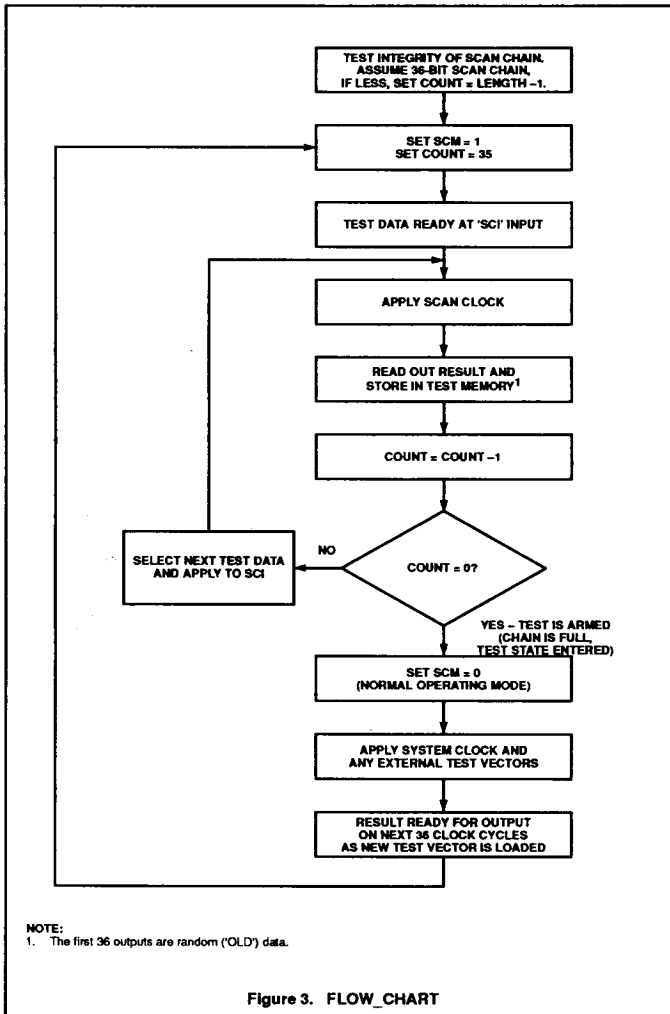

Figure 3. FLOW_CHART
- Figure 3 (FLOW_CHART) depicts a flow chart version of the test sequence.